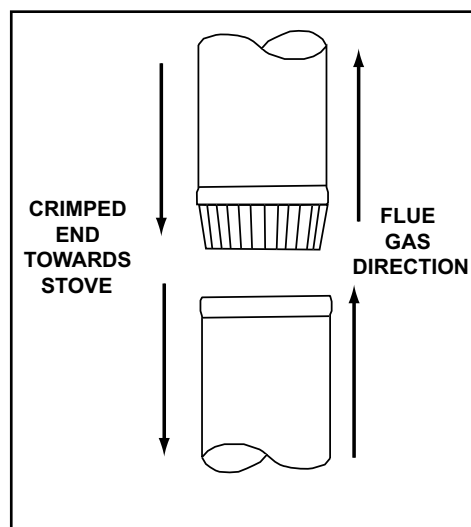

Figure 11B - Chimney Connector
- A. **Single wall connector or stove pipe.** This must be at least 24 gauge mild steel or 26 gauge blue steel. The sections must be attached to the stove and to each other with the crimped (male) end pointing toward the stove. **See Figure 11B.** All joints, including the connection at the stove collar, should be secured with three sheet metal screws. Make sure to follow the minimum clearances to combustibles as set out on **pages 6-8** of this manual. Where passage through the wall, or partition of combustible construction is desired, the installation shall conform to CAN/CSA-B365.